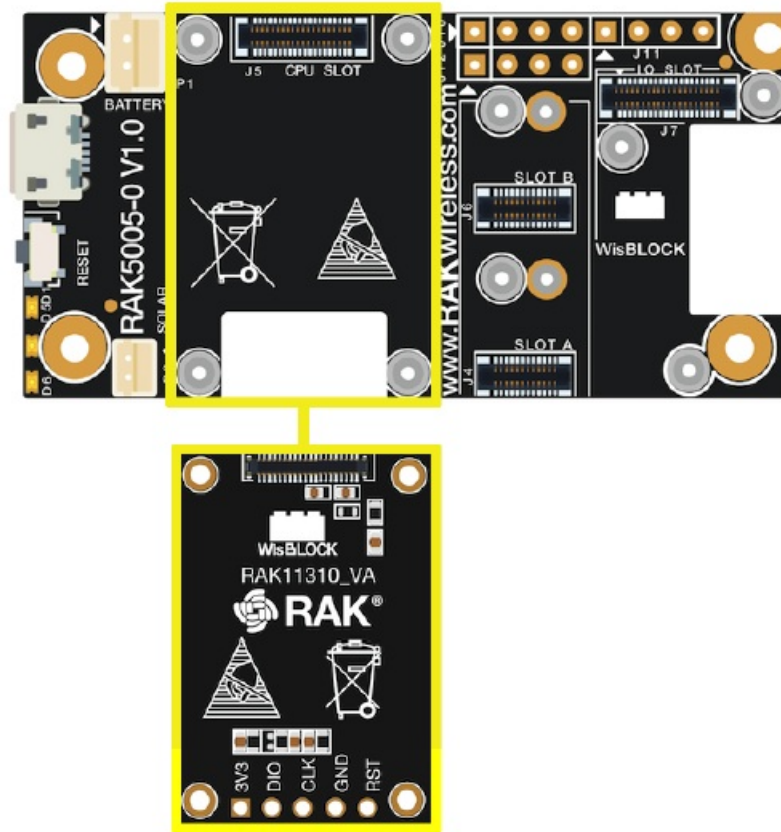

Figure 1: RAK11310 Connection to WisBlock Base RAK5005-O
1. Refer to Figure 1 in the user manual for the visual representation of the connection.
To illustrate, RAK11310 can be connected to the RAK5005-O WisBlock Base, as shown in Figure 1.